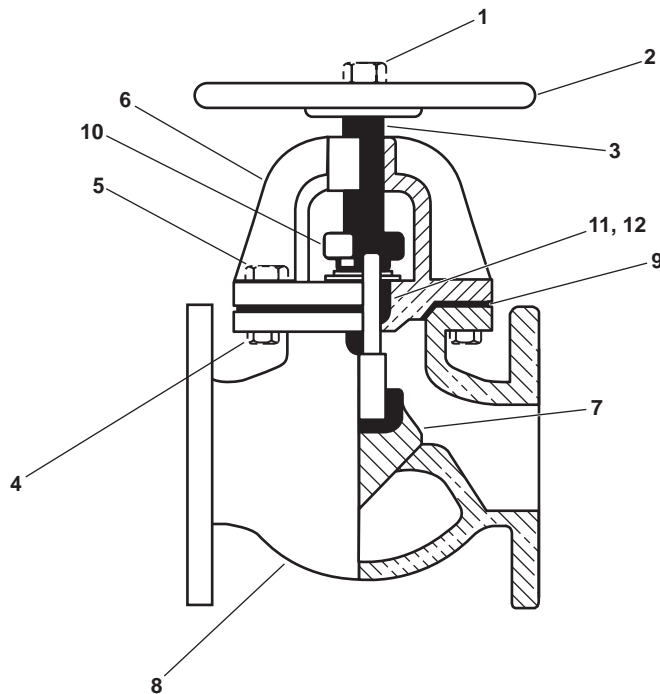

Figure 7. Typical Globe Stop Check Valve Repair
2. Remove the nut (figure 7, item 1) and handwheel (figure 7, item 2) from the stem (figure 7, item 3).
3. Remove the four nuts (figure 7, item 4) and four bolts (figure 7, item 5) securing the bonnet (figure 7, item 6).
4. Remove the bonnet (figure 7, item 6), shaft (figure 7, item 3), and valve seat (figure 7, item 7) from the body (figure 7, item 8) as an assembly.
5. Remove and discard the gasket (figure 7, item 9).
6. If the valve seat (figure 7, item 7) is damaged, pitted, or corroded, remove and discard it.
7. Remove the packing gland nut (figure 7, item 10) and silicone O-ring (figure 7, item 11) and rubber O-ring (figure 7, item 12) from the bonnet (figure 7, item 6).
1. Lubricate a new rubber O-ring (figure 7, item 12) with clear water and slide it over the stem (figure 7, item 3) and into the bonnet (figure 7, item 6).
2. Lubricate a new silicone O-ring (figure 7, item 11) with clear water and slide it over the stem (figure 7, item 3) and into the bonnet (figure 7, item 6).
3. Loosely install the packing gland nut (figure 7, item 10) into the bonnet (figure 7, item 6).
4. If the valve seat (figure 7, item 7) was removed during Disassembly, install a new valve seat on the stem (figure 7, item 3).
5. Position a new gasket (figure 7, item 9) on the body (figure 7, item 8).
6. Place the bonnet (figure 7, item 6), shaft (figure 7, item 3), and valve seat (figure 7, item 7) into the body (figure 7, item 8) as an assembly and secure the bonnet with the four nuts (figure 7, item 4) and four bolts (figure 7, item 5).
7. Place the handwheel (figure 7, item 2) on the stem (figure 7, item 3) and secure it with the nut (figure 7, item 1).